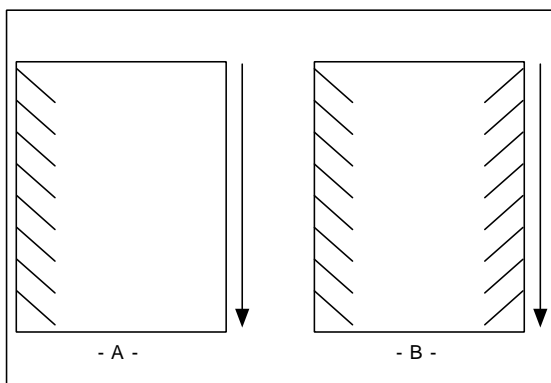

Fig. 26
5. Angled waves in the output. (Fig. 26 A&B)